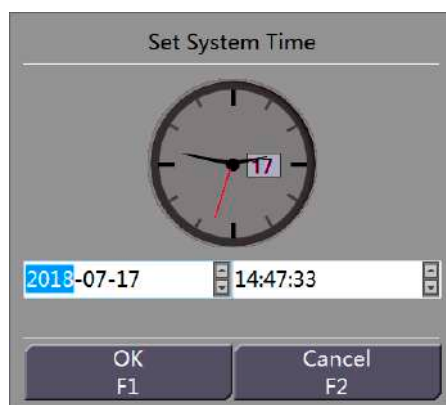

Figure 18-25 System Time Settings Interface
Step 1 Choose System Settings > Set System Time to display an interface, as shown in Figure 18-25.